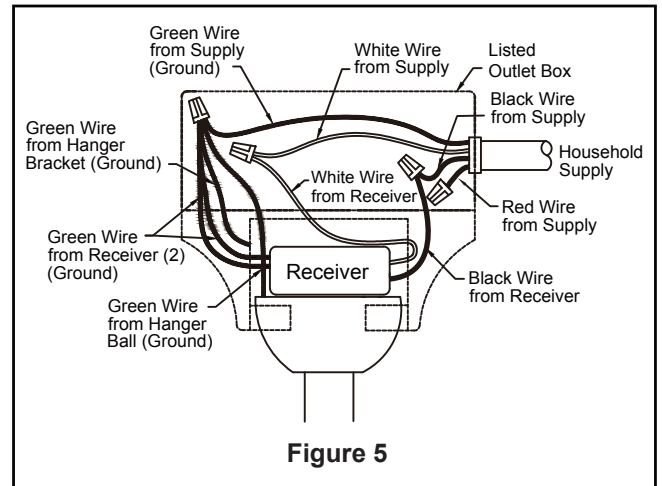

Figure 5
5. Route wires and safety cable through motor coupling cover, canopy screw cover and ceiling canopy. (Figure 5)
4. After connections have been made, put the white and green leads to one side and the black leads towards the other side, the connection should be turned upward and carefully push leads into the outlet box. The wires should be spread apart with the grounded conductor and the equipment-grounding conductor on one side of the outlet box and the ungrounded conductor on the other side. (Figure 5)
- 5. Secure the glass to light kit assembly by twisting in a clockwise direction. Twist the glass gradually until it snaps onto the light kit assembly. Do not over-tighten. (Figure 5)
- 7.** To set the remote code in the same positions as the receiver, use a small screwdriver or ball point pen (neither included) to slide dip switches firmly up or down. (Figure 5)